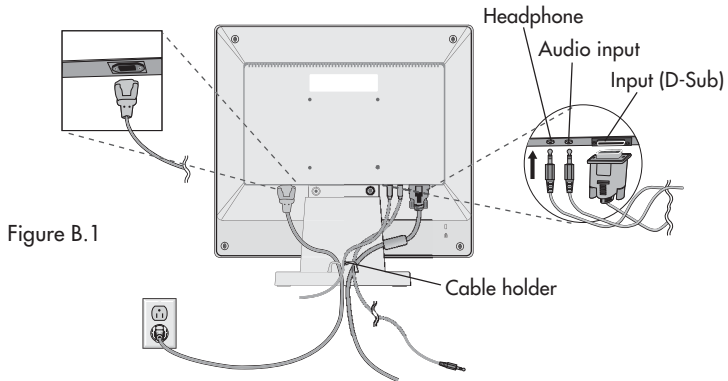

Figure B.1
3. Connect the 15-pin mini D-SUB of the video signal cable to the appropriate connector on the back of the monitor (**Figure B.1**). Connect the audio cable to AUDIO-INPUT on the back of the monitor and the other end to the "Audio out" terminal of the computer. Headphones may be connected to the "Headphones" output on the back of the monitor "H". While the headphones are connected, the sound from the speakers will be disabled. Headphones can be purchased from your local electronics store.
4. Connect one end of the power cord to the LCD and the other end to the power outlet. Place the video signal cable and power cord between the cable holder (**Figure B.1**).